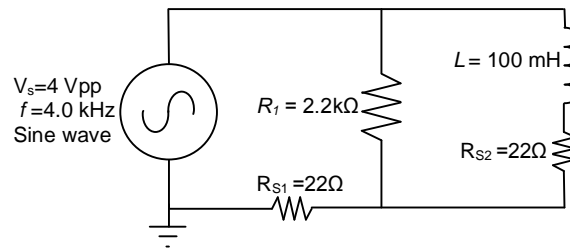

Figure 5.4
4. Construct the circuit shown in Figure 5.4. Using the oscilloscope's CHANNEL 0 to monitor the function generator, set the source voltage to a sine wave with a voltage of 4.0 V_{PP} at 4.0 kHz. Verify both the voltage and the frequency with the oscilloscope.